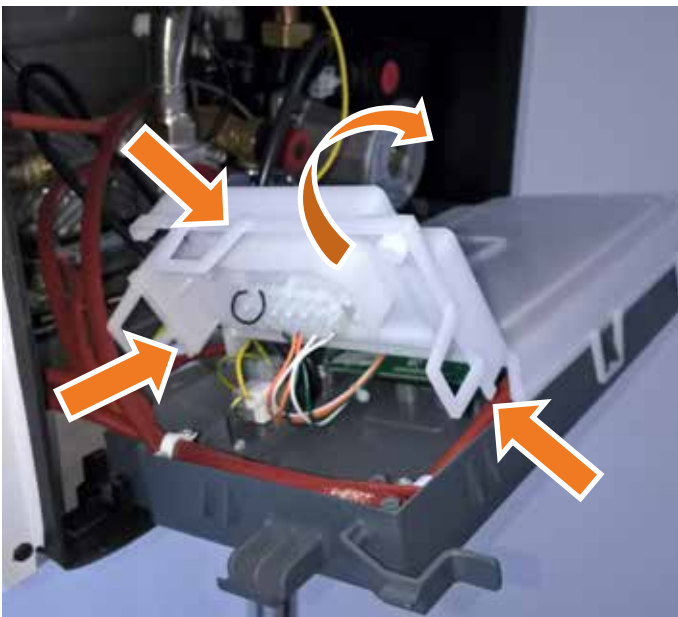

Figure 2.32
3. Swing the control box down into the servicing position. Refer to Figure 2.32